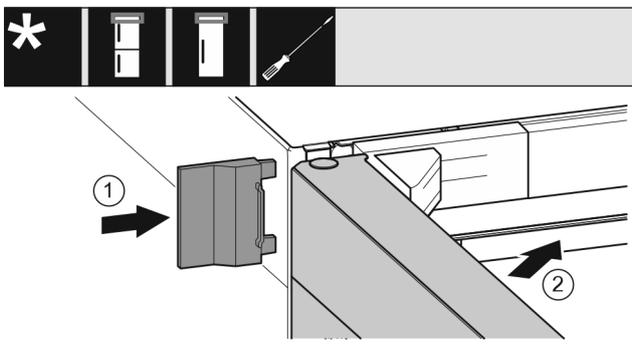

Fig. 22
- ▶ Slide on the outer cover. *Fig. 22 (1)*
- ▶ Close the upper door. *Fig. 22 (2)*